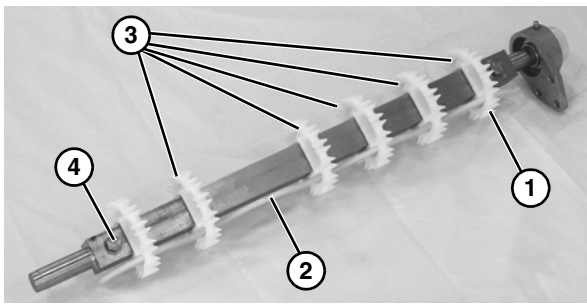

Figure 82
1. Slide the first sprocket (**Figure 82, item 1**) onto the spindle shaft.
2. Insert the sprocket alignment bar (**Figure 82, item 2**) into the first sprocket (**Figure 82, item 1**). Position the first sprocket with the notch in the sprocket alignment bar.
3. Install the remaining sprockets (**Figure 82, item 3**) making sure to position each sprocket with the next available notch in the sprocket alignment bar.
4. Secure sprockets in place with bolt (**Figure 82, item 4**).